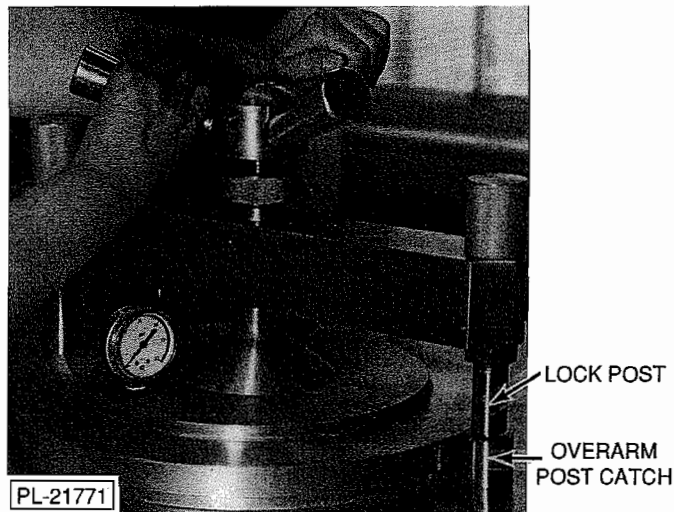

Fig. 14
8. Lift the basket out of the oil and hang the basket on the lip of the kettle. Continue loading the food (maximum capacity is 15 pounds of food). When the desired amount of food is placed in the basket, give the basket one more swirl in the oil. Close the lid. **Make sure the lock post is fastened in the overarm post catch (Fig. 14).** Tighten the handle.
11. When the desired amount of food is placed in the basket, give the basket one more swirl in the oil. Close the lid. **Make sure the lock post is fastened in the overarm post catch (see Fig. 14).** Tighten the handle.